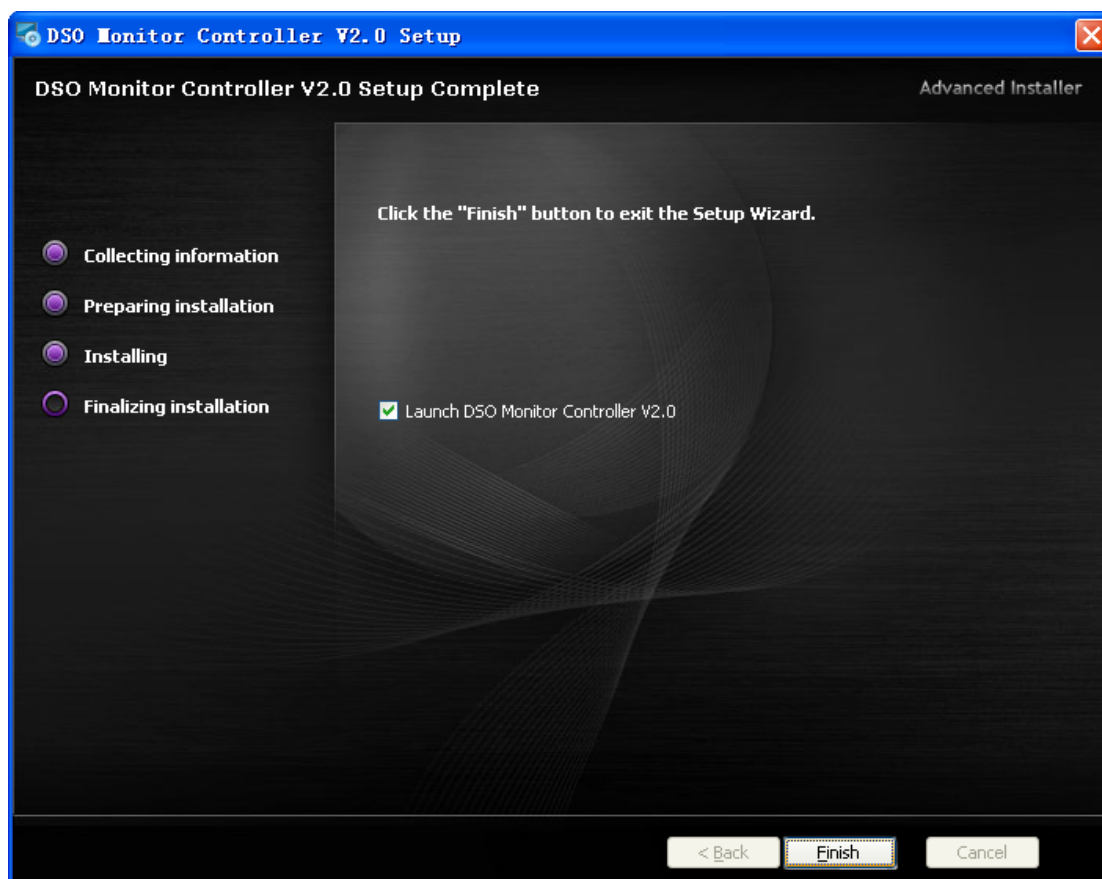

Fig. 1-6
**Step 5:** After automatic program installation, an interface as shown in Fig.1-6 will pop up. Click **Finish (F)** to finish installation of the software on the computer.